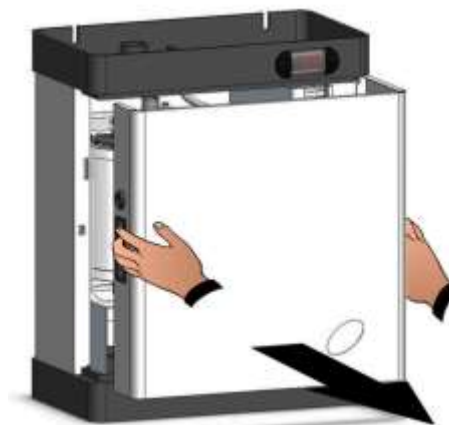

Fig. 7
4. Remove the front cover by gripping the two handles on the sides and slightly pulling towards you (fig. 7).